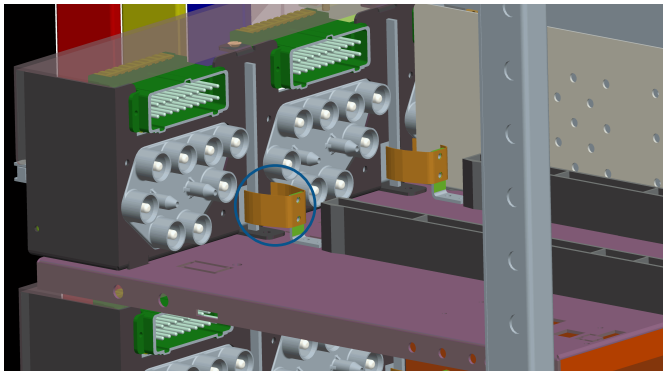

Figure 20 - Earthing for fractional module module
9. For the Fractional Modules, earthing is achieved through the fixed contact as highlighted in Figure 20 which is connected to the copper strip running at the bottom of the tray connecting to vertical earthbar.